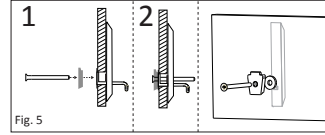

Fig. 5
14. As you hold the flange and apply pressure to the bar by pulling outward, align the hole in the mounting bracket with the center hole of the flange and insert a 3" machine screw into the mounting bracket and then the center hole of the flange. Ensure that the mounting bracket is positioned upright with the tab on the large side facing upwards. Next align the machine screw with the threaded insert in the bar and tighten enough to keep the bar upright. DO NOT COMPLETELY TIGHTEN. (see Figure 5).
14. Alors que vous tenez la collerette et faites pression sur la barre en tirant vers l'extérieur, insérez une vis de 3 po (7,62 cm) dans le trou central de la collerette. Ensuite, insérez la vis à métaux dans le trou fileté de la barre et serrez suffisamment pour maintenir la barre droite. NE SERREZ PAS COMPLÈTEMENT. (Fig. 5).